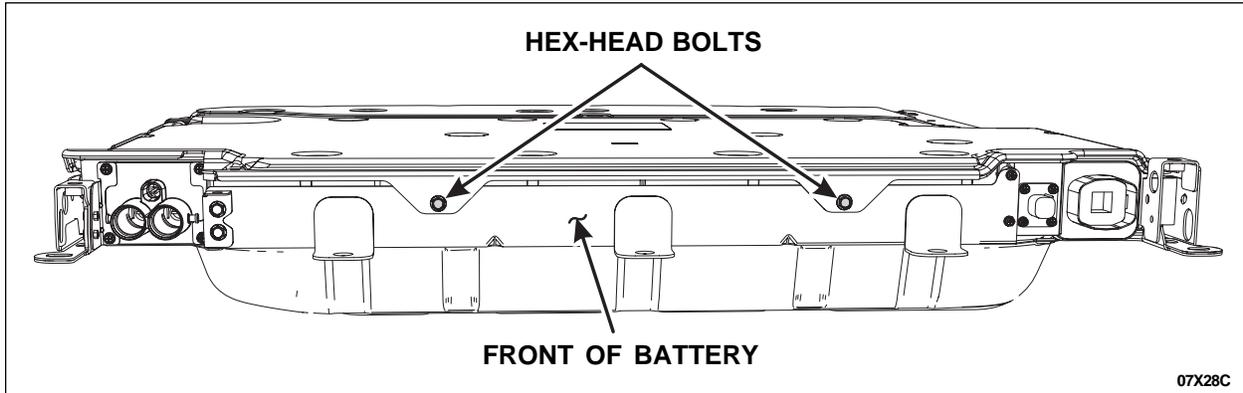

FIGURE 3
3. Remove the 2 Hex-head bolts securing the front side of the front battery cover. See Figure 3.